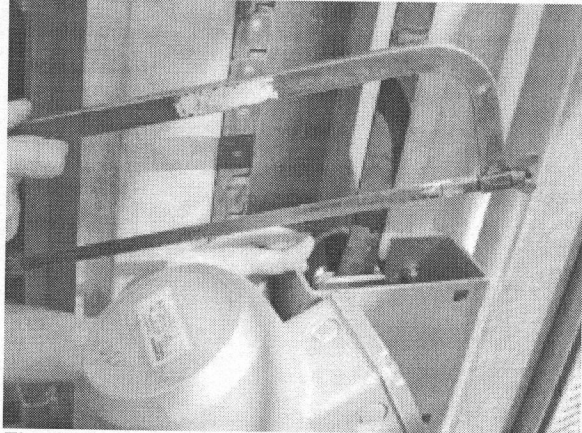

Fig. 058
13. Check whether the roof brush is hanging horizontal. Finally, saw off the excess belt length on side 1 (Fig. 058).